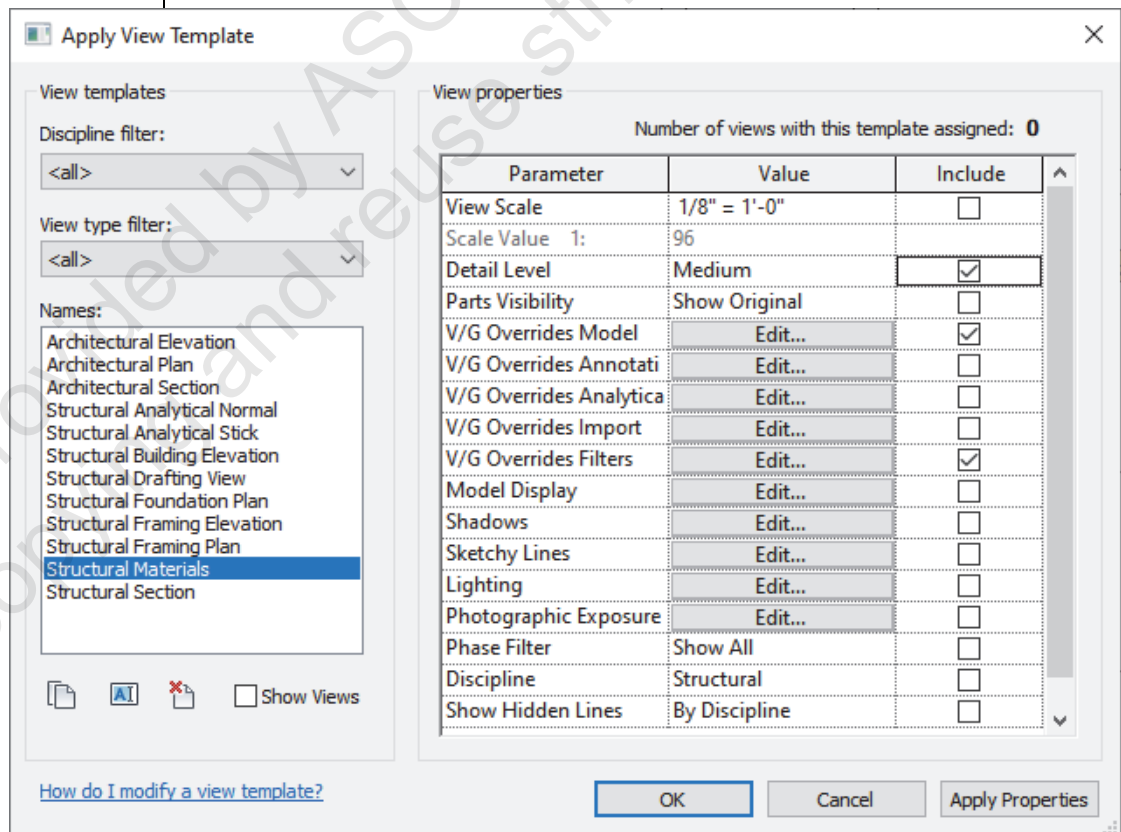

Figure 1–155
3. In the Apply View Template dialog box, set the *View type filter* to **<all>** and select **Structural Materials**, as shown in Figure 1–155.